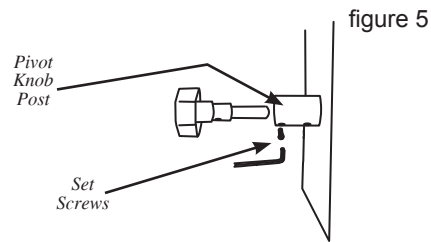

figure 5
10. Tighten the second **Set Screw** under the **Pivot Knob Post** until it stops (make sure the **Set Screw** fits in the notch on the **Pivot Knob** shaft). Loosen the **Set Screw** ½ turn to allow the **Pivot Knob** to rotate freely (figure 5).